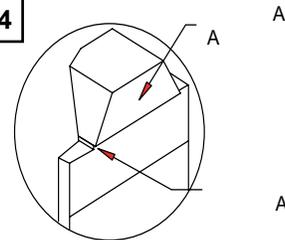

FIGURE 75
5) The damper plate end pieces are designed to sit on the firebox side wall between the front and back long damper beams. Place the vertical face of each piece 1-1/2” to the inside of the inside sidewall of the firebox. This will allow the fire brick to align flush with the damper end pieces. (Figure 75)